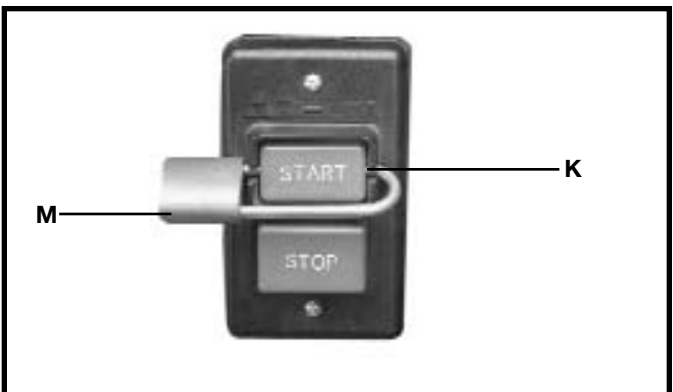

Fig. 18
**IMPORTANT:** When the tool is not in use, the switch should be locked in the “OFF” position to prevent unauthorized use, using a padlock (M) Fig. 18 with a 3/16" diameter shackle.